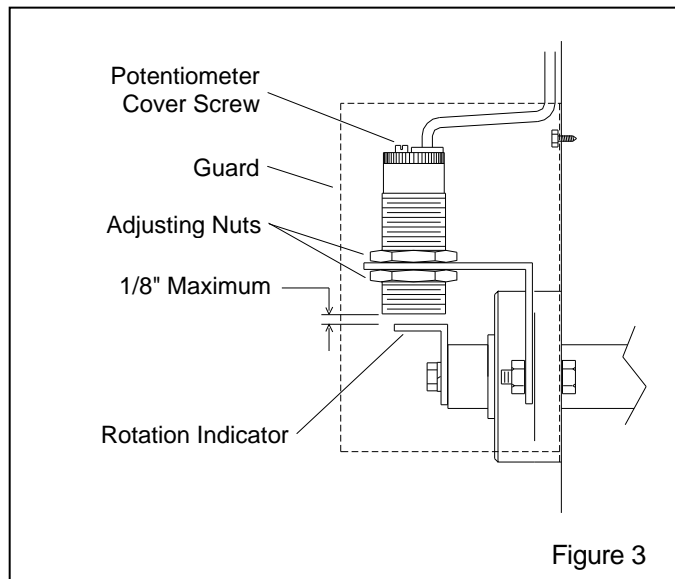

Figure 3
**2.8** Rotate the bottom pulley or rotation indicator tab until the tab is facing the monitor as shown in figure 3.
**2.9** Adjust the two nuts on the monitor so the distance between the monitor end and indicator tab is approximately 1/16", or as close as possible without touching, and a maximum gap of 1/8", as shown in Figure 3.